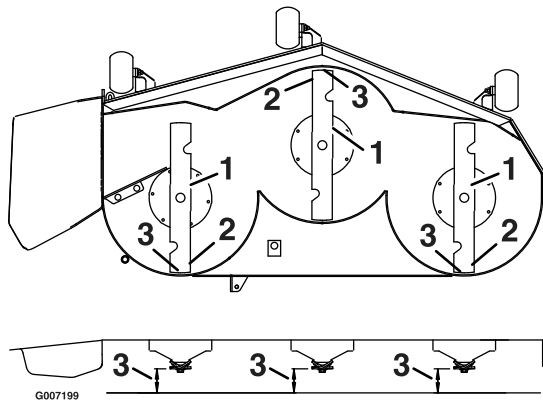

Figure 34
1. Rotate the blades until the ends face forward and backward (Figure 34). Measure from a level surface to the cutting edge, of the blades. Note this dimension.